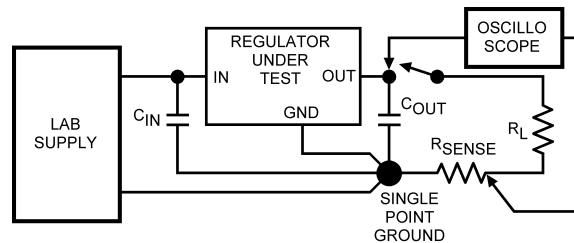

Figure 9. Using a Sense Resistor To Measure Load Current
7. If the current step is to be measured on an oscilloscope, use a resistor and NOT a current probe (Figure 9). The scope’s trigger can be activated by the rising edge of the current pulse seen across R_{SENSE} .